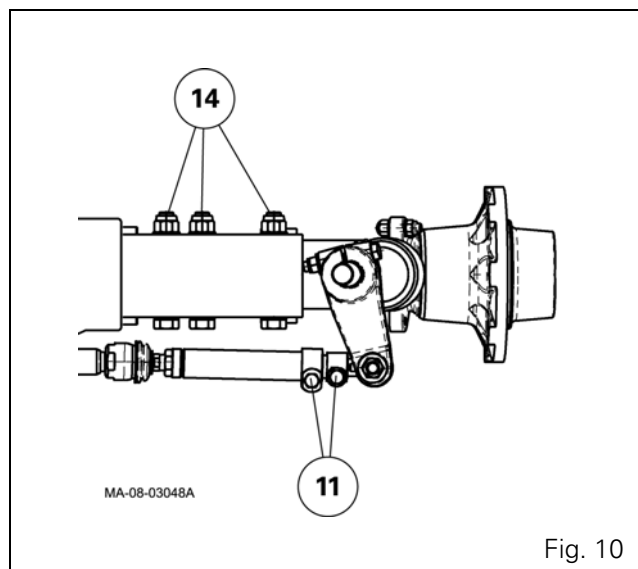

Fig. 10
89. Take out the screws (14) and nuts (Fig. 10).
91. Fit the screws (14) and tighten to a torque of 260 Nm.
92. Adjust the rods (5) according to the position of the arms.
93. Fit the screws (11) and tighten to a torque of 70 Nm.